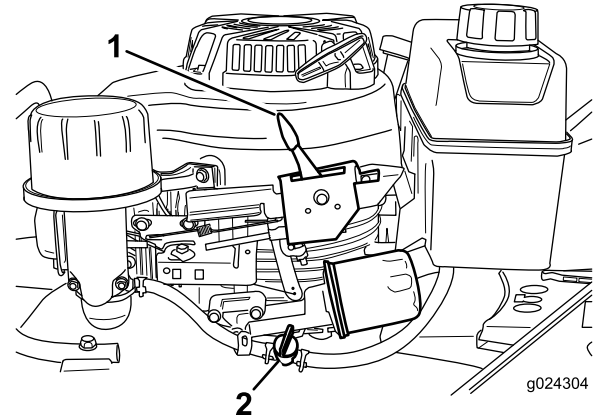

Figure 15
2. Open the fuel valve by moving the fuel-valve lever to the **right** (Figure 15).
Release the blade-control bar and move the throttle-control lever (Figure 15) to the STOP position.
Note: Close the fuel valve (Figure 15) if you will not be starting the engine soon afterward.